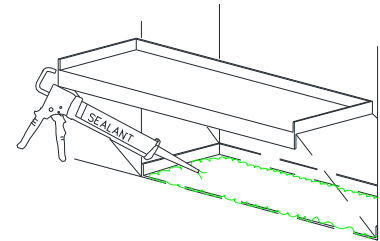

Figure 4:
- Secure the sillpan to the floor with sealant. Position sillpan as necessary to allow for proper installation of frame assembly (Figure 4).